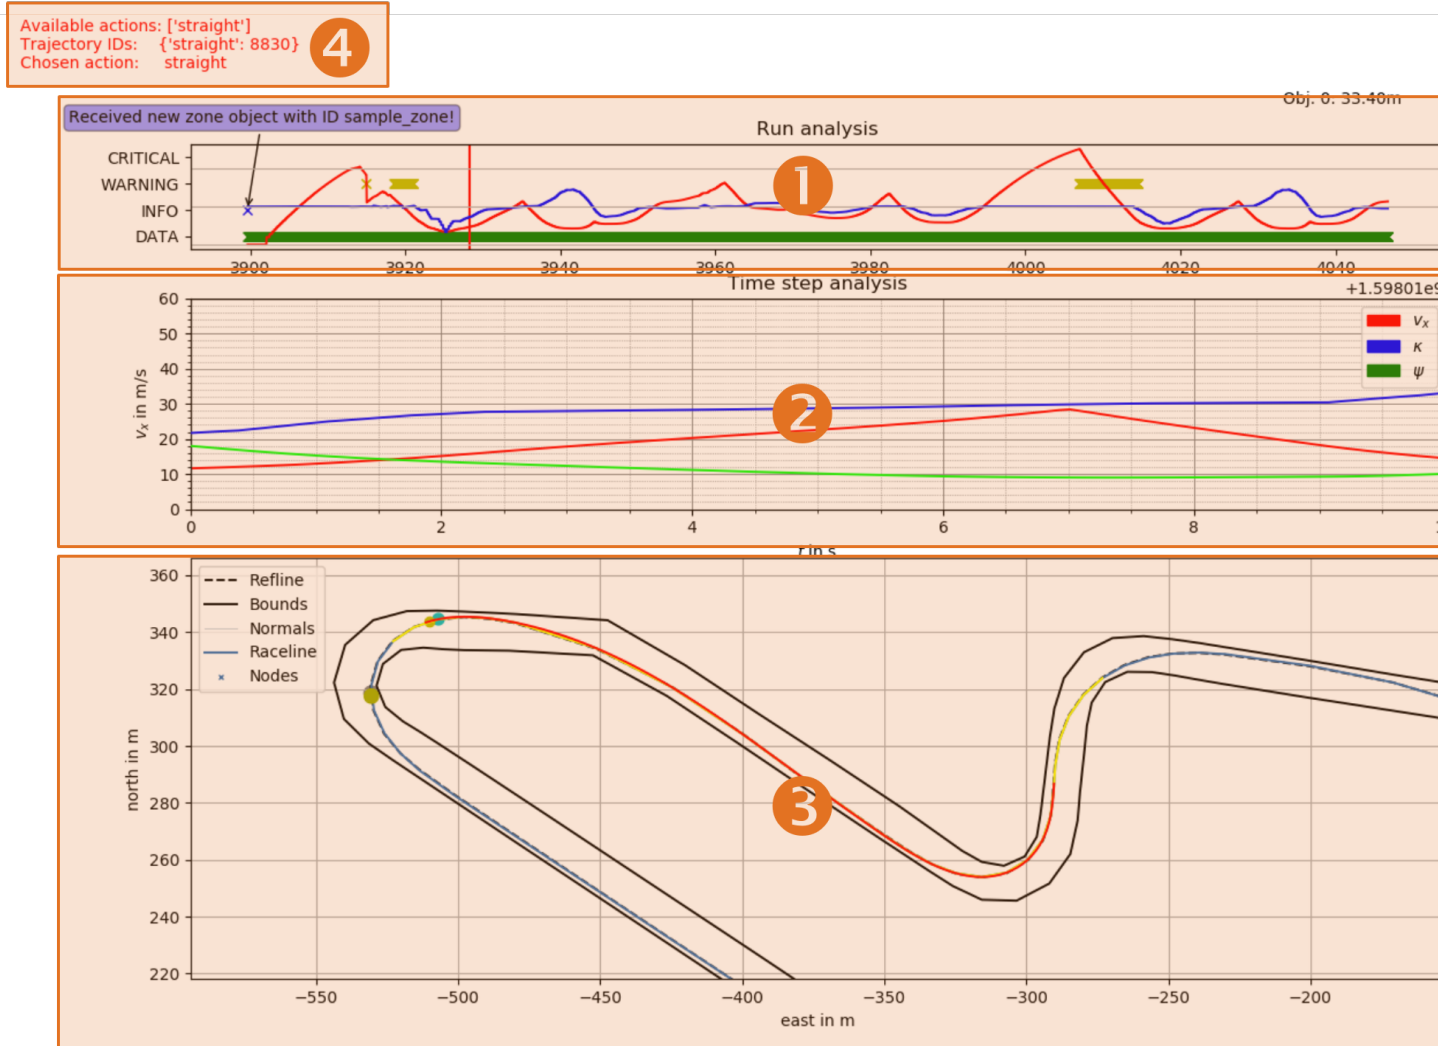

Figure 1: Key elements of the log viewer.
The tool consists (Figure 1) of three major plot windows (1 - 3) and additional information in the top left corner (4). The key functionality of each of the parts is explained in the following.
- 1. The run overview segment.** The velocity (red) and curvature (blue) course during the whole run are displayed here. That way it is easy to spot curves or certain straights. Events are highlighted with crosses on the corresponding time line. That way, each time a new data point was received, a green cross is drawn (green bar in the bottom). In a similar manner, information (blue), warnings (yellow) and critical events (red) are highlighted. When hovering with the mouse above one of the crosses, a description is shown (see blue bubble on the top left of (1)). Furthermore, when dragging them mouse over the run analyses, the information displayed in all of the following segments is updated accordingly (e.g. vehicle pose and trajectory at the selected time instance,